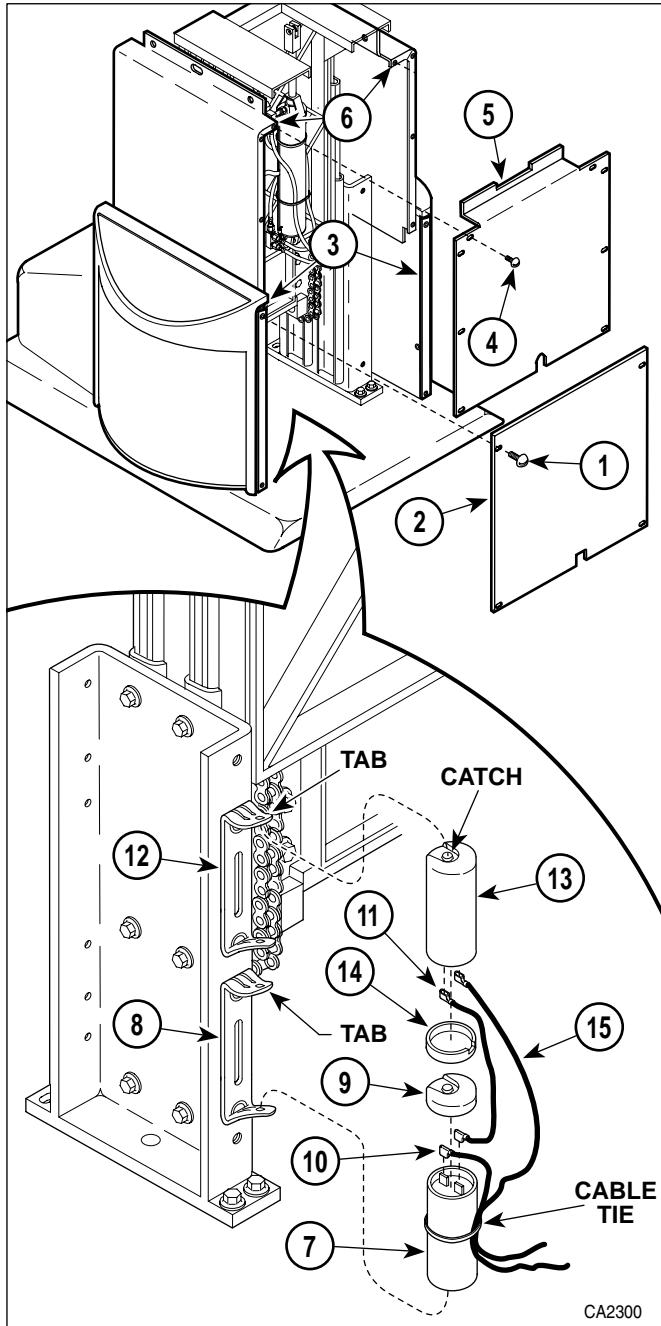

Figure 4-25. Capacitors Removal / Installation
- (1) If possible, raise FOOT UP function all the way up.
- (2) Unplug table power cord from outlet.
- (3) Remove four screws (1, Figure 4-25) and front outer shroud (2) from left and right hand outer shrouds (3).
- (4) If necessary to gain access to capacitors, remove eight screws (4) and front inner shroud (5) from left and right hand inner shrouds (6).
- (5) Cut cable tie securing wires to capacitor (7).
- (6) Using a screwdriver, pry tab of capacitor mounting bracket (8) upward and remove capacitor (7) from capacitor mounting bracket.
- (7) Remove capacitor cap (9) from capacitor (7).